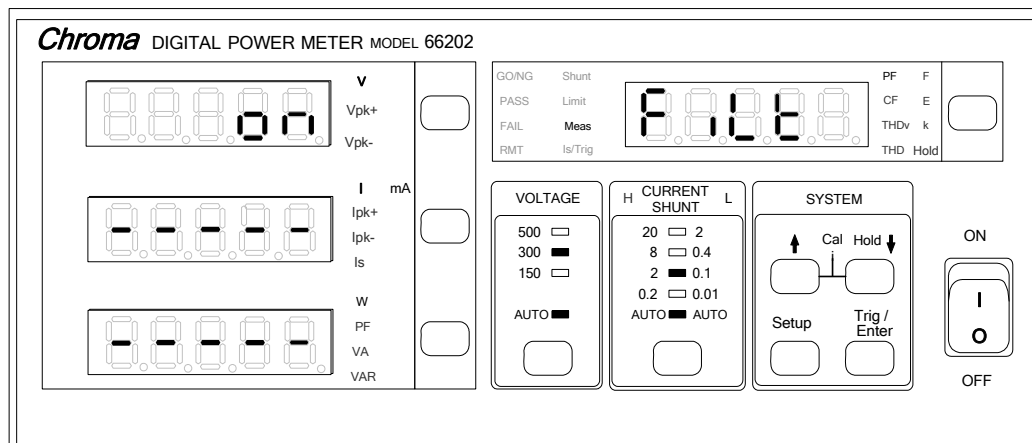

Figure 4-31 Setting Filter
1. Press **Setup** to select Meas and the indicator of Meas is on. Figure 4-31 shows the setting of Filter.